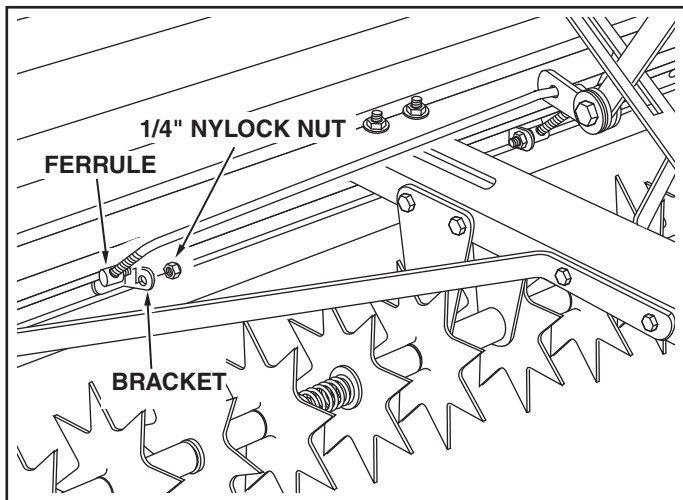

FIGURE 26
40. Check that both ferrules are adjusted so that approximately ten threads (1/2") of the control rod is exposed. Insert both ferrules into the brackets which are riveted to the front of the flow plates. Assemble a 1/4" nylock nut onto each ferrule, making only **finger tight** at this time. See figure 26.